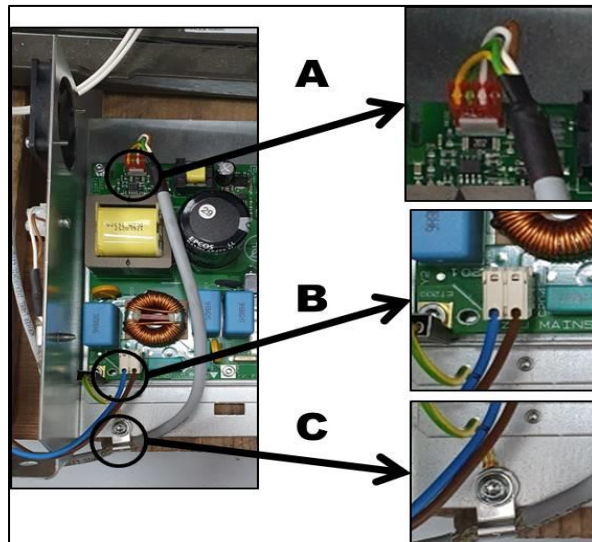

Fig.2.5
8. Disconnect the communication cable **A** ( Fig.2.5).
9. Disconnect the power cables **B** (Fig.2.5).
10. Unscrew the communication cable **C** (Fig. 2.5).